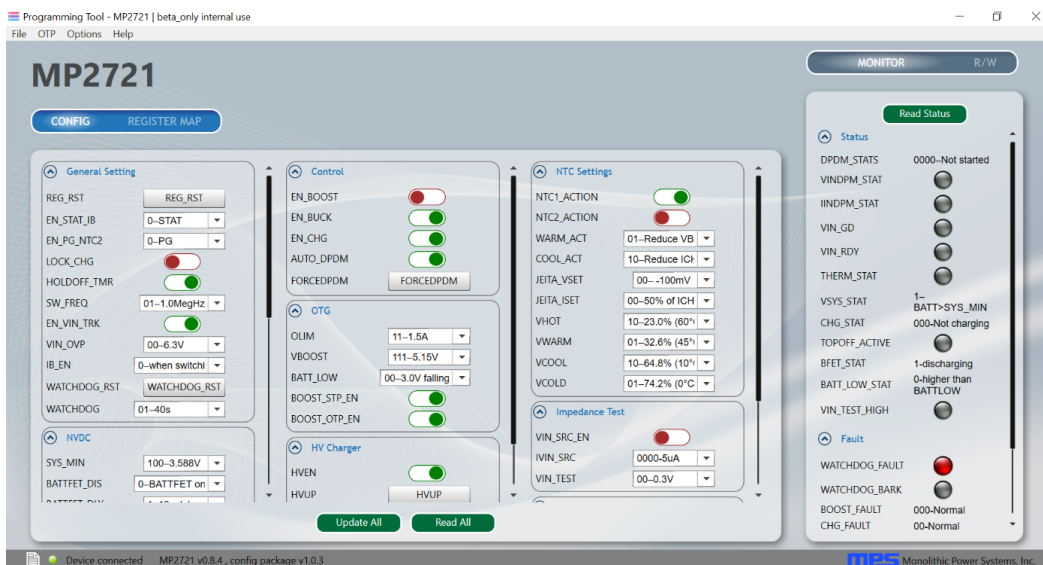

**Figure 1: USB to I2C Communication Interface**
2. Prepare the USB-to-I2C communication interface (EVKT-USBI2C-02) (See Figure 1).